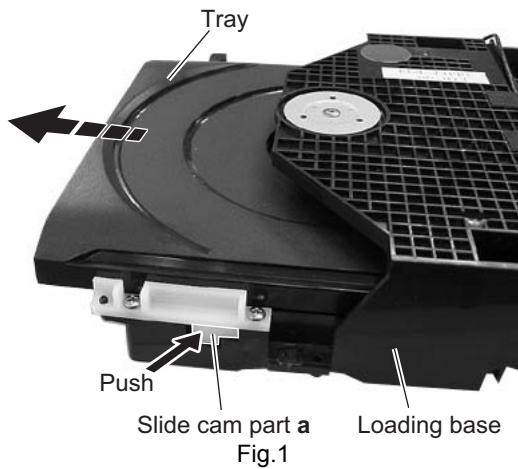
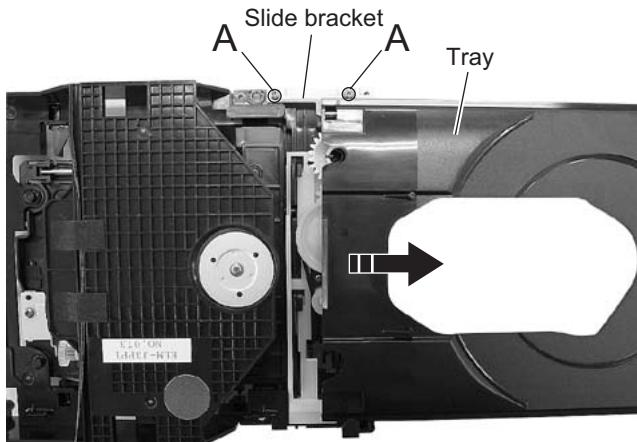

Fig.1
Fig.2
2.2.1 Removing the tray (See Figure 1, Figure 2, Figure 3, Figure 4, Figure 5, Figure 6)
- (1) Push **a** of the slide cam on the hole in the right side of the loading base by using a driver until it stops. (See Figure 1.)
- (2) The tray comes out. Pull the tray in a front direction until it stops.
- (3) Remove the two screws **A** attaching the slide bracket. (See Figure 2.)